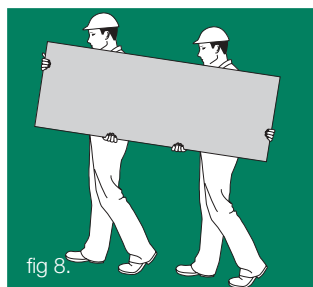

fig 8.
- Carry with two people (figure 8)